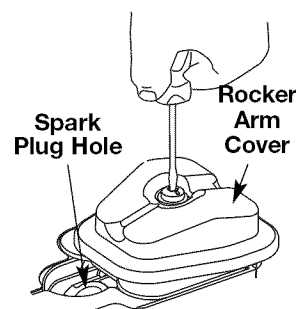

Fig. 29
5. Clean dirt from around the rocker arm cover. Remove the screw holding the rocker arm cover with a large flat blade screwdriver or Torx T-25 bit (Fig. 29). Remove the rocker arm cover and gasket.
9. Reinstall the rocker arm cover using a new gasket (Fig. 29). Torque the screw to: **20–30 in•lb (2.2–3.4 N•m)**.